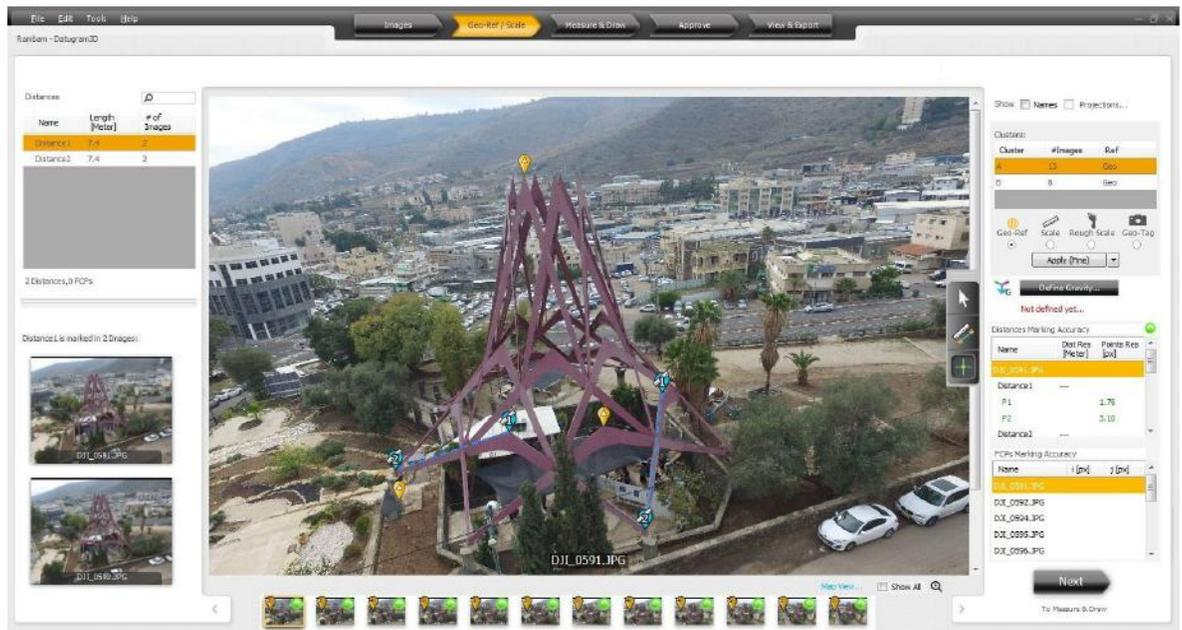

Figure 46 - Scaling Distances
- Repeat the step above to add more distances as needed. All distances will appear in the Distances list as shown below in Figure 46.